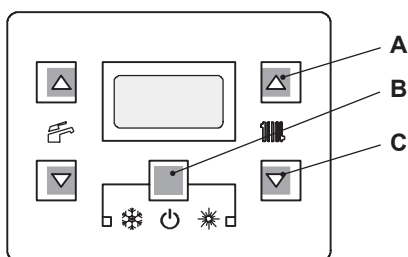

Figure 9.5
- 1 To enter in the parameters setting mode press sequentially the 3 keys "B - C - A" (Figure 9.5) and hold in for 10 second until the display shows Figure 9.6.
To reset the boiler to the normal operation press contemporary the 3 keys ("A - B - C" Figure 9.5) for 10 second.